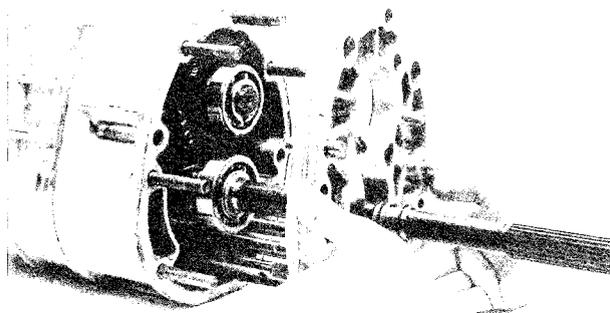

Fig. 7A-12 Removing rear bearing housing
13. Remove the snap ring that secures the main shaft rear bearing to the main shaft. Remove the bearing, thrust washer and bearing inner race with the puller (49 0839 425B), as shown in Fig. 7A-13.